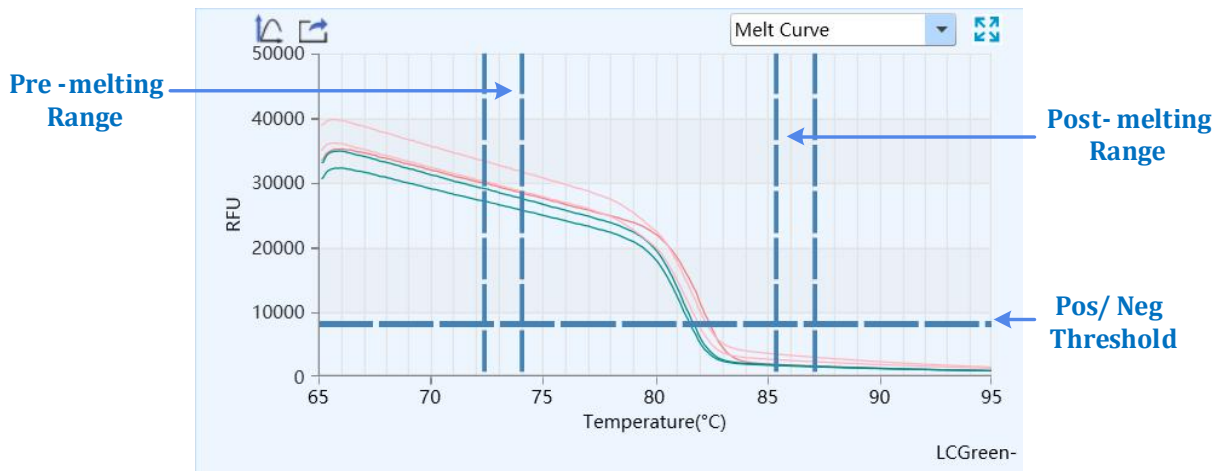

Figure D-14.1 HRM analysis interface - Melting Curve functional module
- I. **Melting Curve:** display the fluorescence intensity against the temperature, as shown in figure D-14.1.